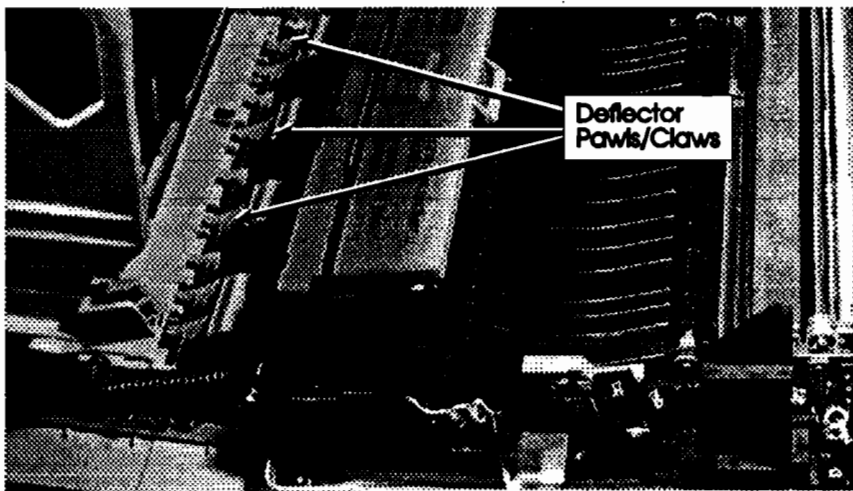

Figure 6-56. Deflector Pawls (Claws)
1. With the Top Cover Assembly fully open, pry the right end of the Deflector Pawls (Claws) shaft out of its retaining clip (see Figure 6-56).
When reinstalling the Deflector Pawls, ensure that the spring is positioned properly and that it is not damaged (see Figure 6-56).